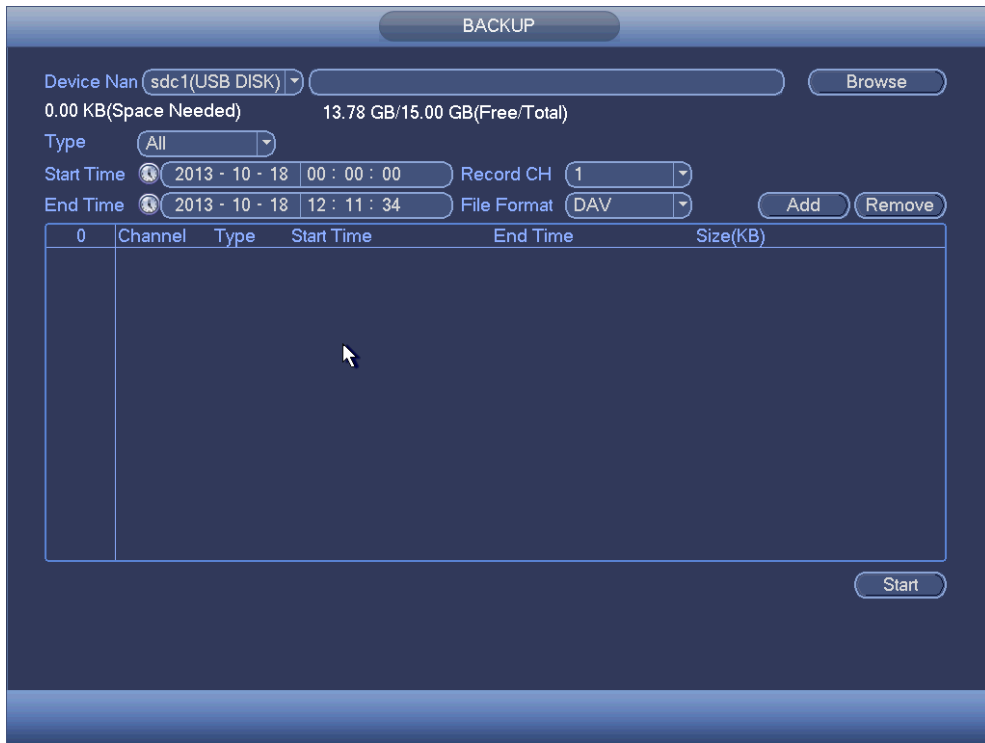

Figure 4-66
- From Main menu->Backup, you can go to the Backup interface. See Figure 4-66